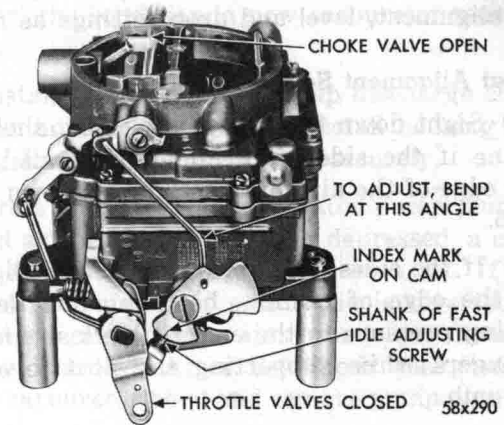

Fig. 70—Fast Idle Cam Indexing
(2) Invert the carburetor and open the throttle valves to wide open position. Close the choke valve tightly and then close the throttle valves. Release the choke valve. This will position the fast idle cam to fast idle. The index mark on the cam should split the center of the fast idle adjusting screw, as shown in Figure 70.
(3) If an adjustment is necessary, bend the fast idle connector rod at the angle, using Tool T109-213, until the index mark on the cam indexes the fast idle adjusting screw.